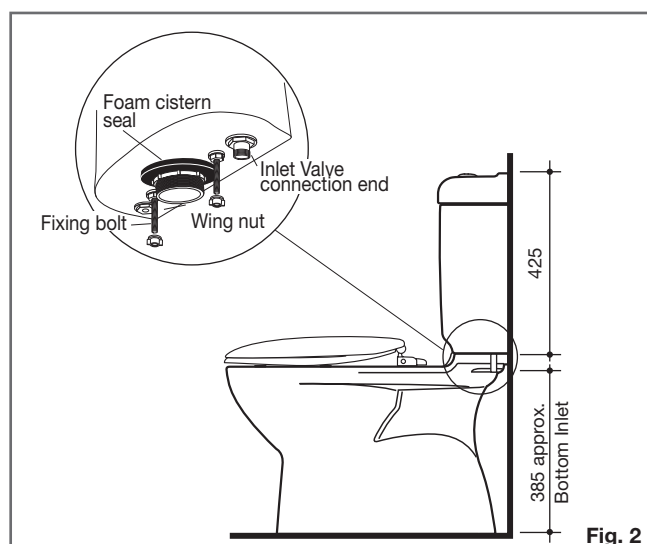

Fig. 2
- 1- Ensure the pre-fixed foam seal at base of cistern is securely attached to cistern base, as detailed in Fig. 2.